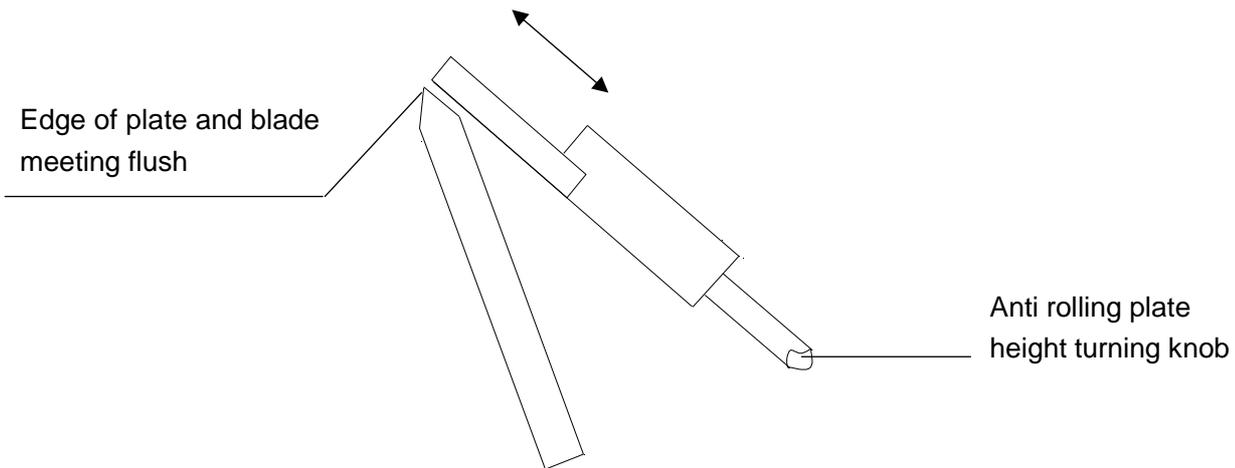

Fig 9 Making flush between edge of blade and anti rolling plate
3. Make the edge of plate and edge of blade meet flush (Fig 9)